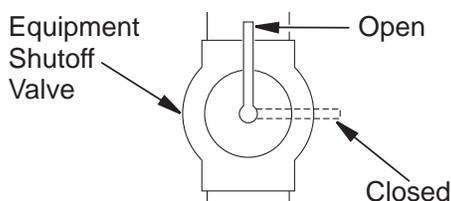

Figure 16 - Equipment Shutoff Valve
1. Close equipment shutoff valve (see **Figure 16**).
1. Open equipment shutoff valve (see **Figure 16**).